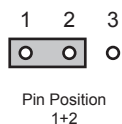

Figure 2.2 J7 — Default Position
- **Pin 1 (left) + Pin 2 (center)** position — In this position, the analog reference is terminated with a 75ohm resistor. This configuration is to be used for point-to-point cabling, or on the last card of a daisy chain topology. This is the default position (**Figure 2.2**).